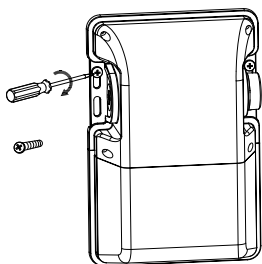

Fig 1
1. Fix the MWP fixture on the wall through the side ear holes with 2x MP screws (Fig 1)